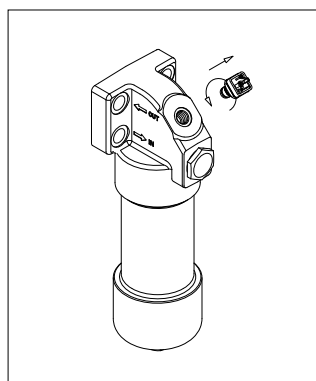

fig. 14
- (Fig. 14) Unscrew the indicator body